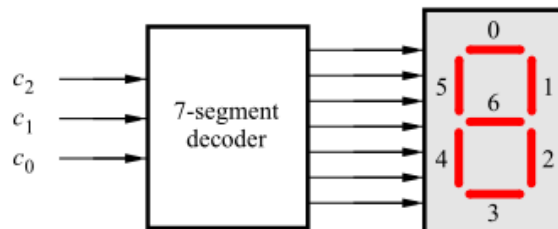

Figure 6. A 7-segment decoder
Figure 6 shows a 7-segment decoder module that has the three-bit input $c_2c_1c_0$. This decoder produces seven outputs that are used to display a character on a 7-segment display. Table 1 lists the characters that should be displayed for each valuation of $c_2c_1c_0$. To keep the design simple, only four characters are included in the table (plus the 'blank' character, which is selected for codes 100 111).
2. Create a VHDL entity for the 7-segment decoder. Connect the $c_2c_1c_0$ inputs to switches SW_{2-0} , and connect the outputs of the decoder to the *HEX0* display on the DE2 board. The segments in this display are called *HEX0₀*, *HEX0₁*, .., *HEX0₆*, corresponding to Figure 6. You should declare the 7-bit port